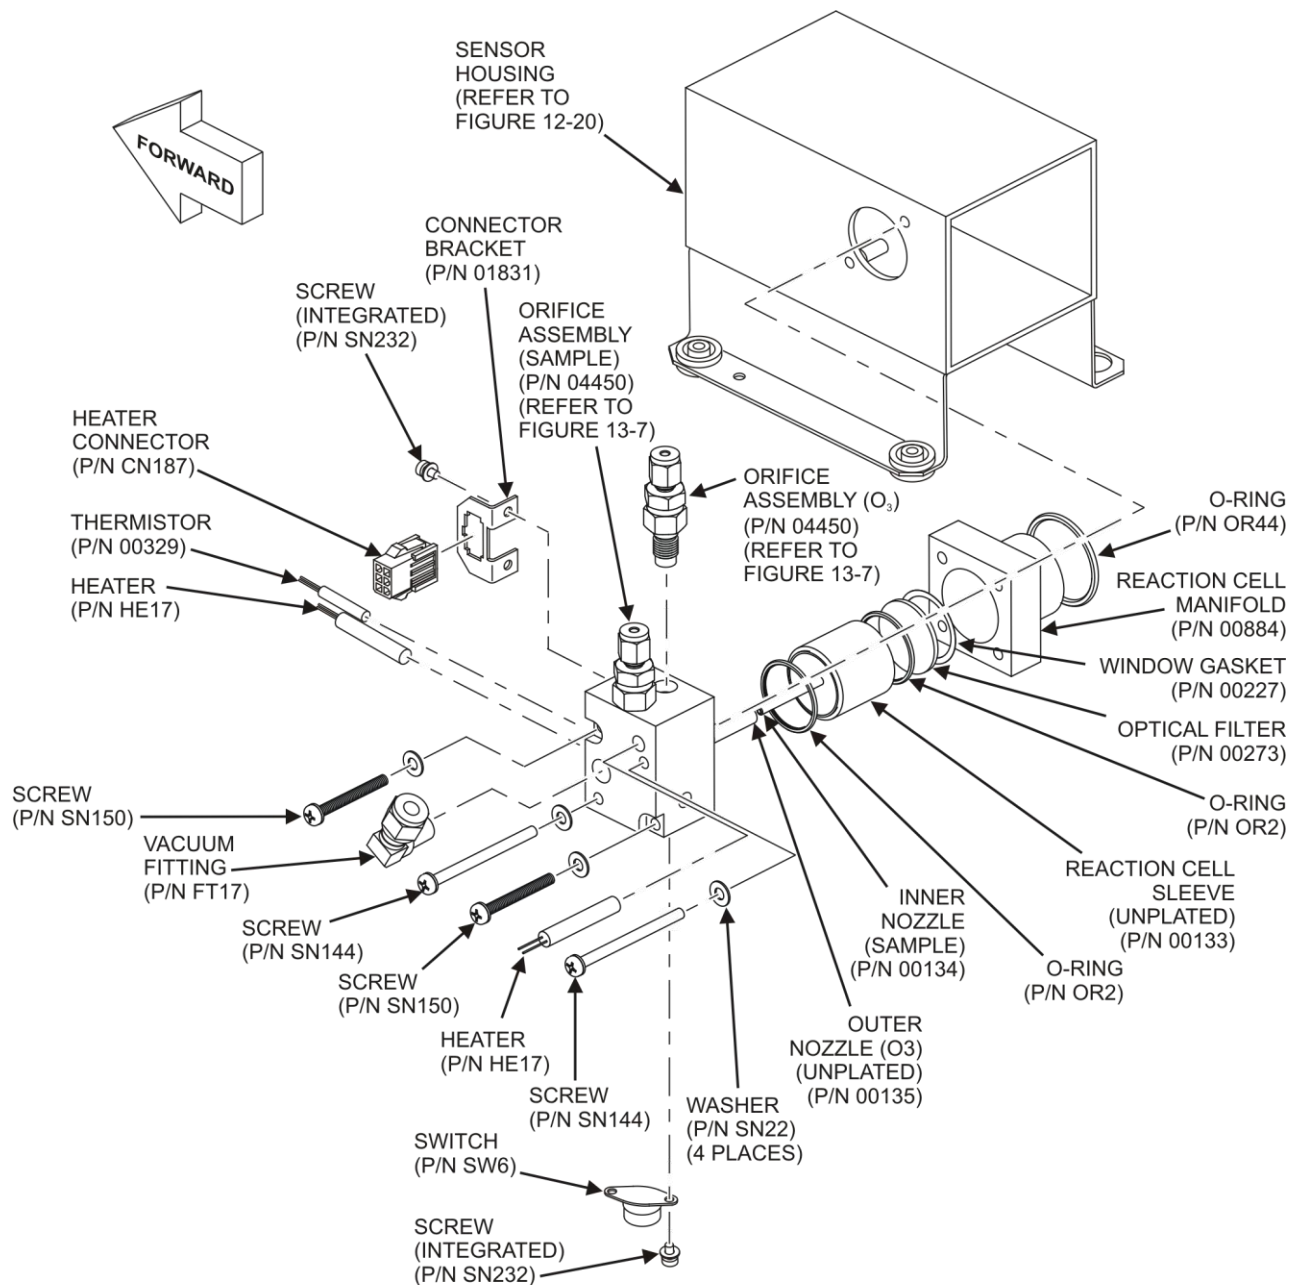

Figure 11-5: Reaction Cell Assembly
1. Turn off the instrument power and vacuum pump. Refer to Figure 11-5 for the following procedure.
2. Remove the analyzer cover and locate the reaction cell (Figure 11-4 and Figure 11-5).
4. For orifices on the reaction cell (Figure 11-5): Unscrew the orifice holder with a 9/16" wrench.